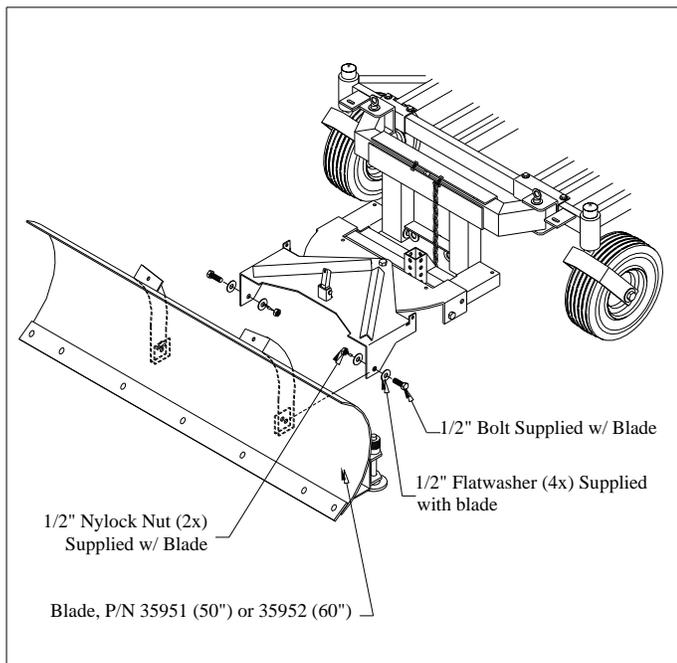

Fig. 5
5. Attach blade (12) to pivot assembly using the 1/2" bolt, flatwashers, and nylocks provided with blade. **FIG. 5**